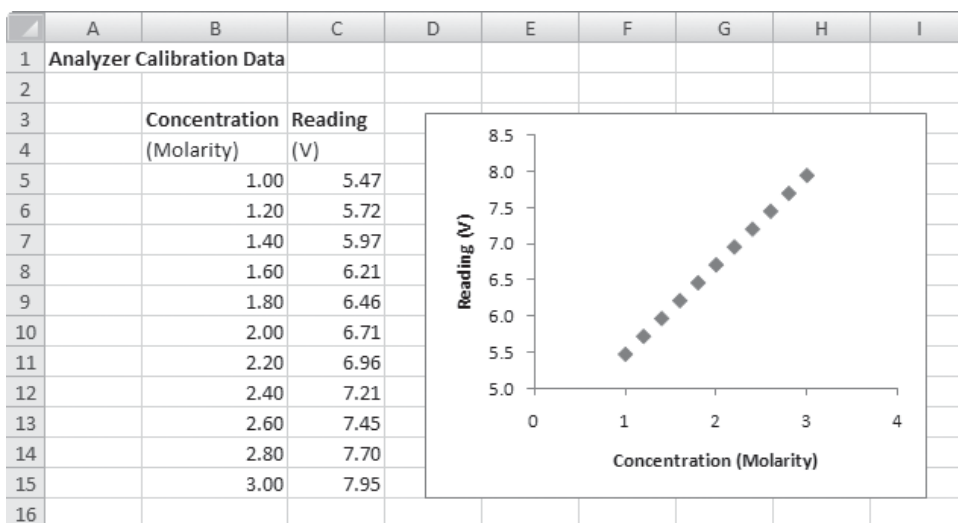

Figure 6.54
3. A typical Excel data file might look something like Figure 6.54, with headings, units, and graphs. The contents must be stripped down to nothing but data values before saving as a .txt file and importing the values into LabVIEW.
The Excel file (CalibData.xls) shown in Figure 6.54 is available at the text's website: www.chbe.montana.edu/LabVIEW